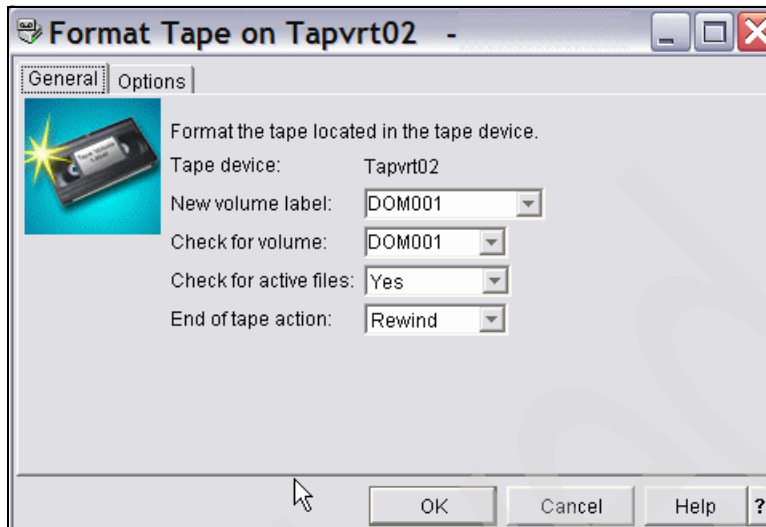

Figure 5-12 Domino with BRMS virtual tape, format options - General tab
12. The Format panel has two tabs, General and Optional. All the fields in the General tab, shown in Figure 5-12 on page 200, are filled. However, you can make changes.